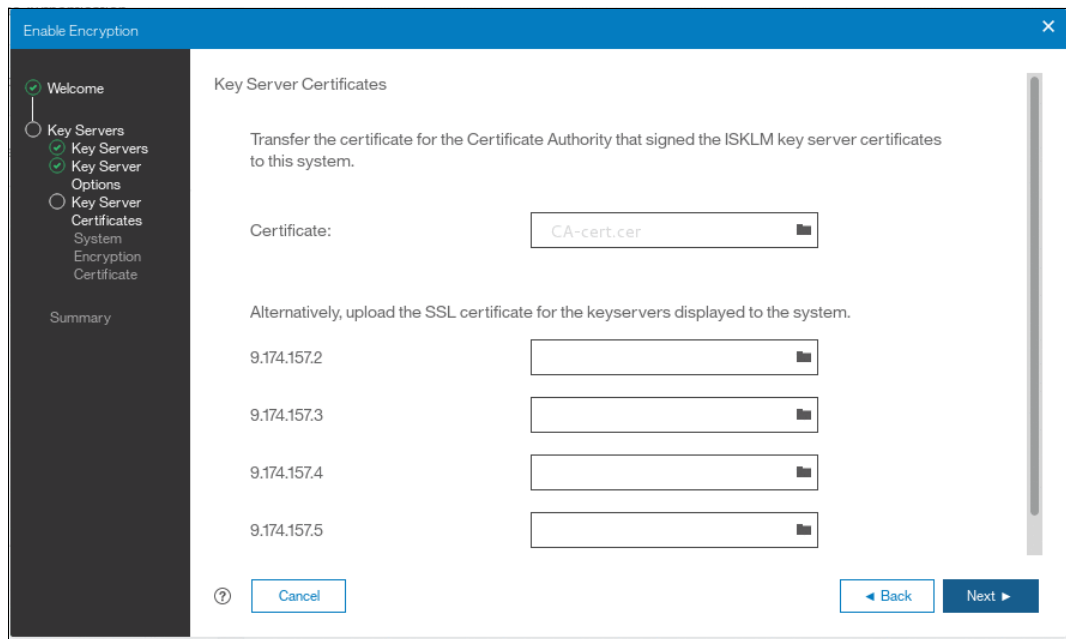

Figure 13-34 Uploading the key server or certification authority SSL certificate
6. The next step is to enable secure communication between the controller firmware system and the SKLM key servers. This can be done by either uploading the public certificate of the certificate authority (CA) used to sign all the SKLM key server certificates, or by uploading the public SSL certificate of each key server directly. Figure 13-34 shows the case when an organization's CA certificate is used. Click **Next** to proceed to the next step.